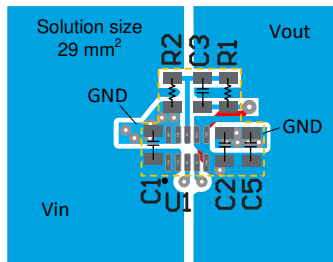

Figure 11-1. TPSM8282x PCB Layout
- Refer to Figure 11-1 for an example of component placement, routing, and thermal design.